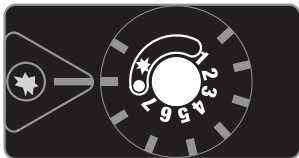

Fig 3
5. To turn off the burner and the pilot, turn the knob clockwise to the "OFF" position. (Fig 3)